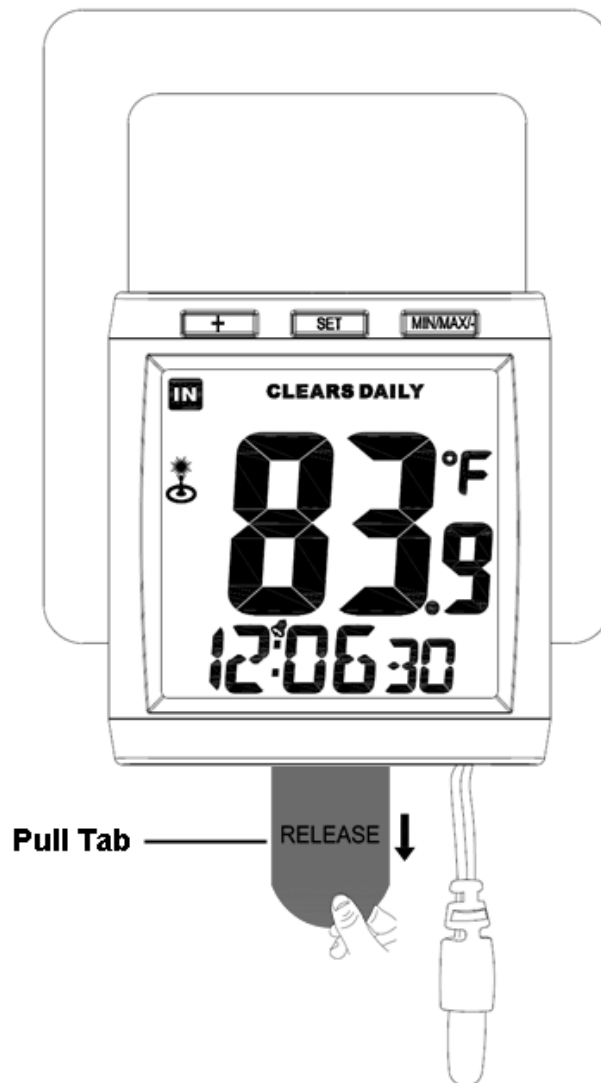

Figure 4
3. Release the Pull Tab to energize the back-up battery, as shown in Figure 4.